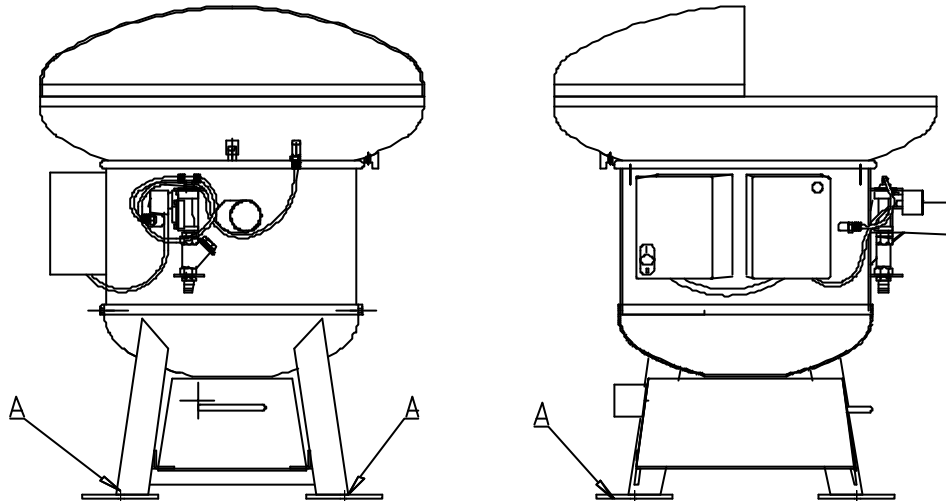

Figure 8: Assembly of BT-1200
- III. Screw all four feet to the floor. See Figure 8: Assembly of BT-1200 at (A).